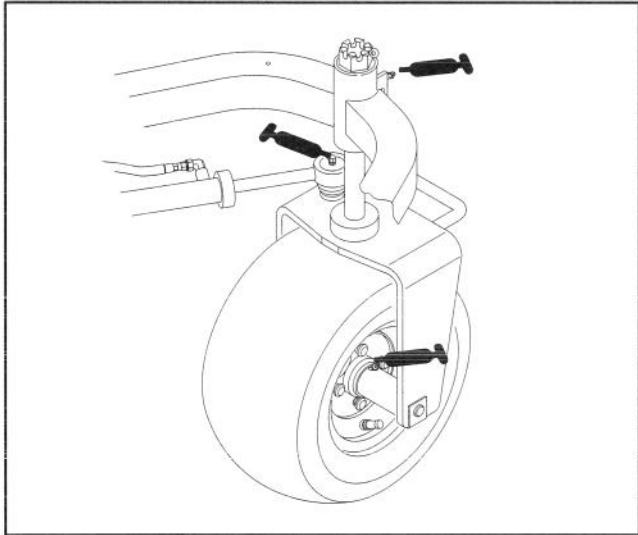
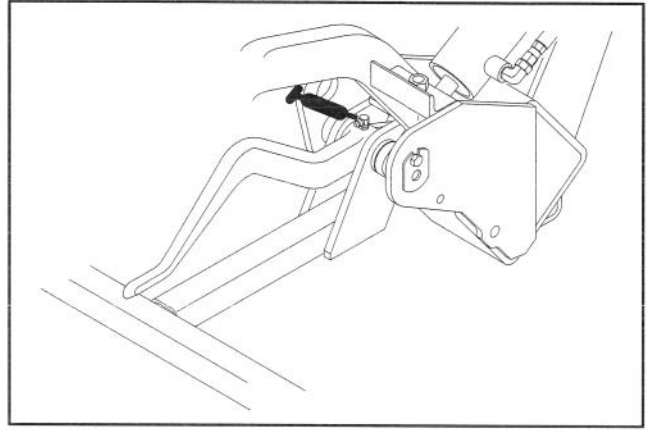
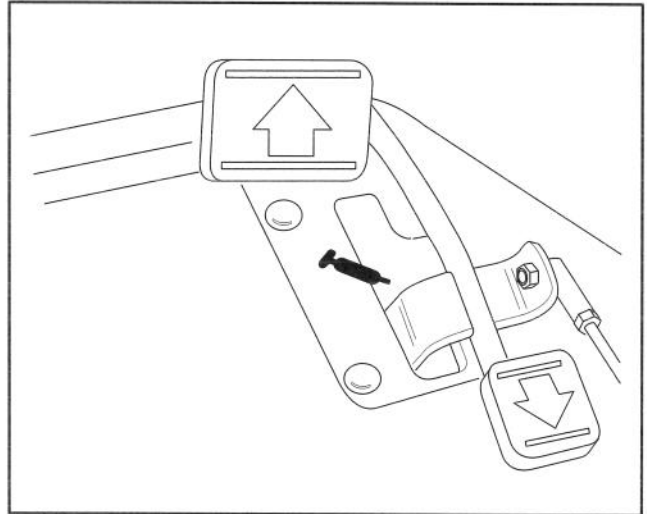

Figure 22
Figure 23
Figure 24
The traction unit bearings and bushings that must be lubricated are: Rear wheel hub (1), Castor bearing (1), Steering cylinder (2) (Fig. 22), Lift arms (3) (Fig. 23), Traction pedal pivot (1) (Fig. 24).